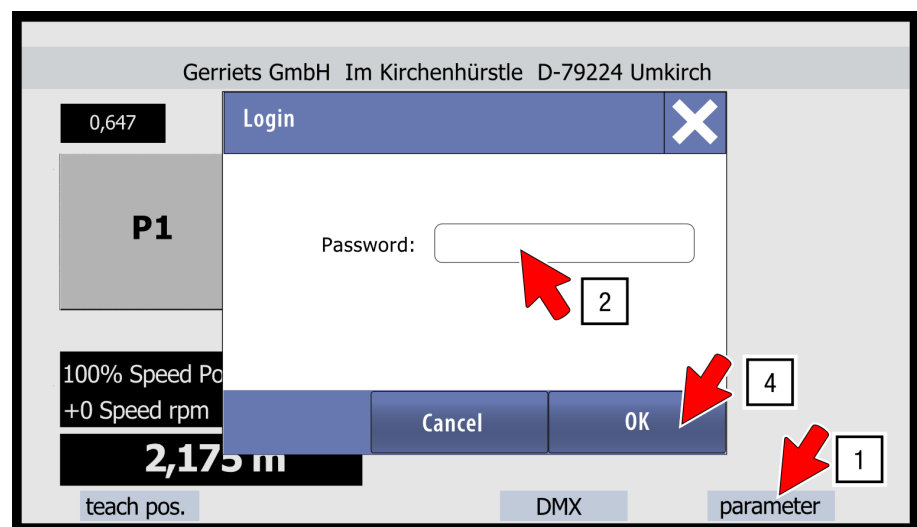

Fig. 46: Parameter Menu – Login
⇒ A password entry screen appears (see Fig. 46).
2. Touch the text field in the input screen (see Fig. 46).
4. By pressing the “OK” button, you return to the input screen and confirm your entry (see Fig. 46).